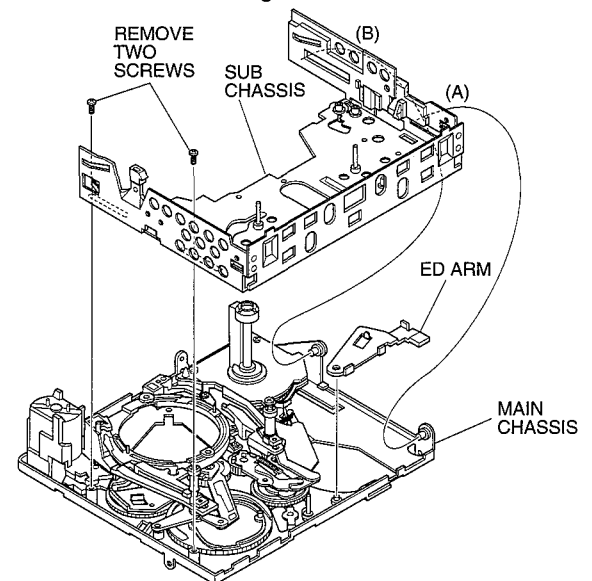

Fig.2-8
- (1) Remove 2 screws. (See Fig. 2-8)
- (2) Release linked sections (A) and (B) with the main chassis.
- (3) Remove the ED Arm.
2. Install the sub chassis so that sections (A) and (B) are linked with the main chassis. (See Fig. 2-8)